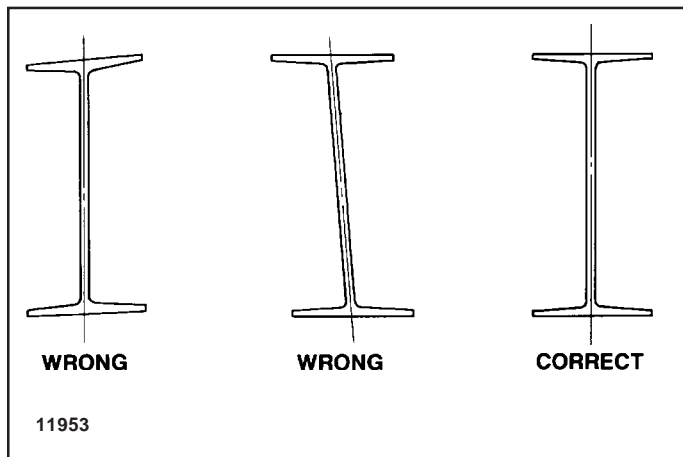

Figure 2. Correct Beam Selection.
1. Bridge Beam. Obtain one length of American Standard Section I-Beam of the size recommended (see chart on page 1) for the required capacity and span of bridge. The beam that you order must be a minimum length of the span plus 9-1/4". The I-beam selected must be straight with flanges parallel to each other and flanges at 90 degrees to the web. See Figure 2. For long spans with the larger rated loads, a channel is also required. The channel must be a minimum length of the span minus 4'0".